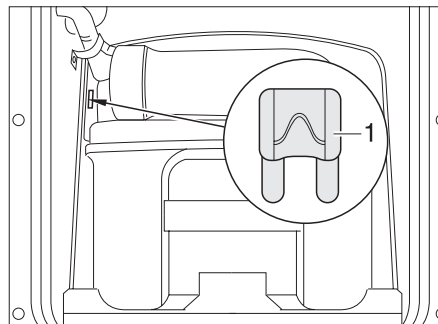
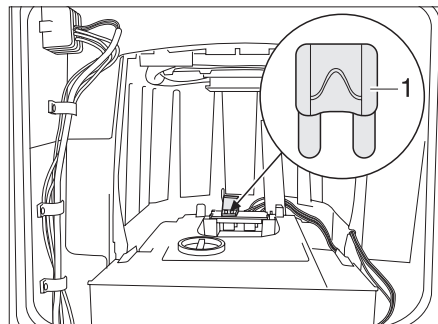

Fig. 152 Fuse for the Thetford toilet
Fig. 153 Fuse for the Thetford toilet (alternative)
- ▶ Replace fuse (Fig. 152,1 or Fig. 153,1).